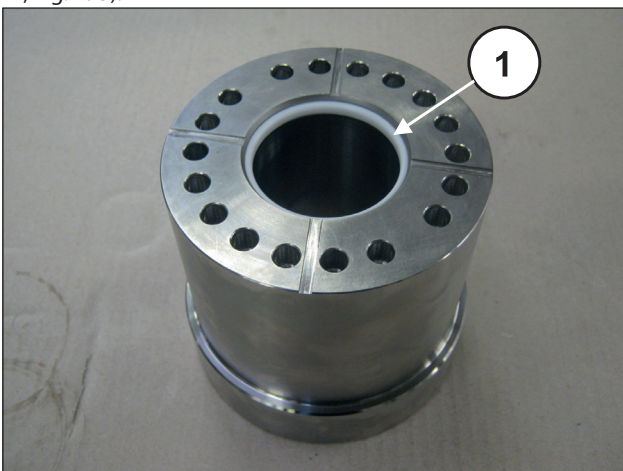

Fig. 195
Fit the seal gasket support in the seal gasket in the liner (pos. ①, Fig. 195).